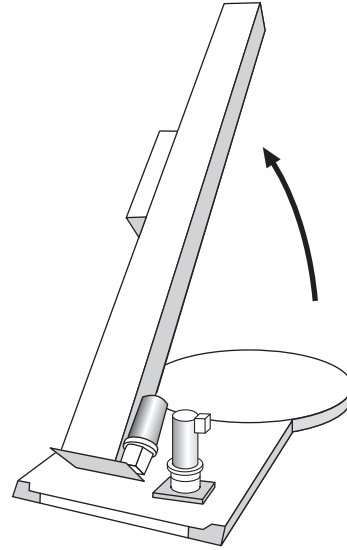

Figure 3
2. Once the machine has been successfully uncrated, the next step is to begin erecting the tower. Start by leaning the tower until fully upright. (See Figure 3)